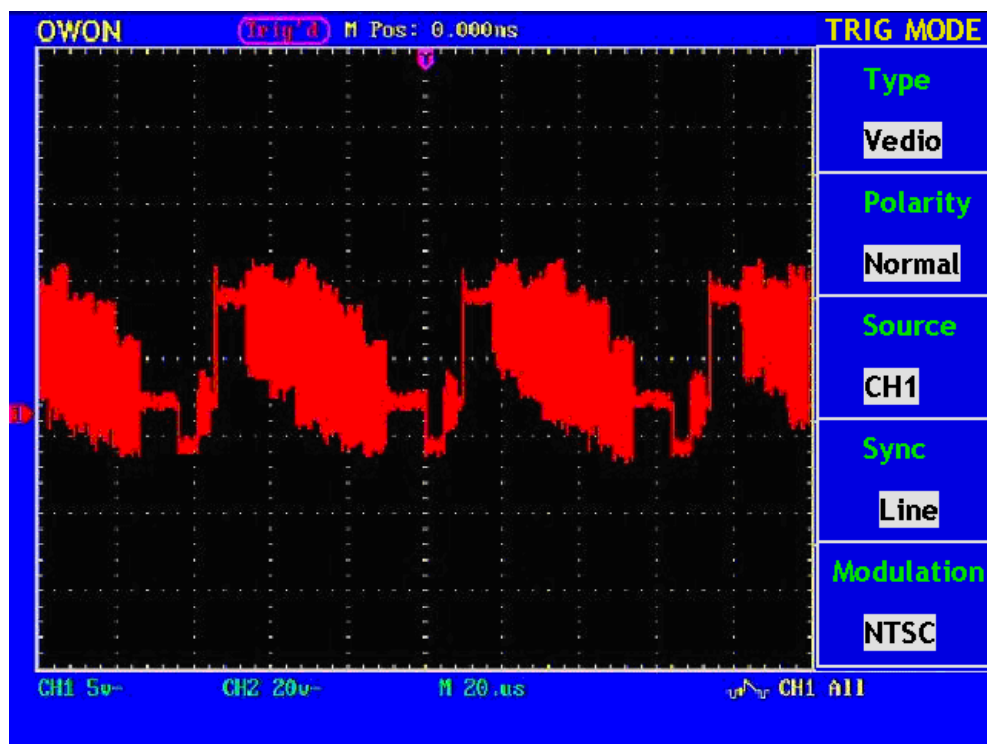

Fig. 38 Video line trigger Oscillogram
- 6、Press F4 to chose synchronization as “Line” (refer to Fig. 38)